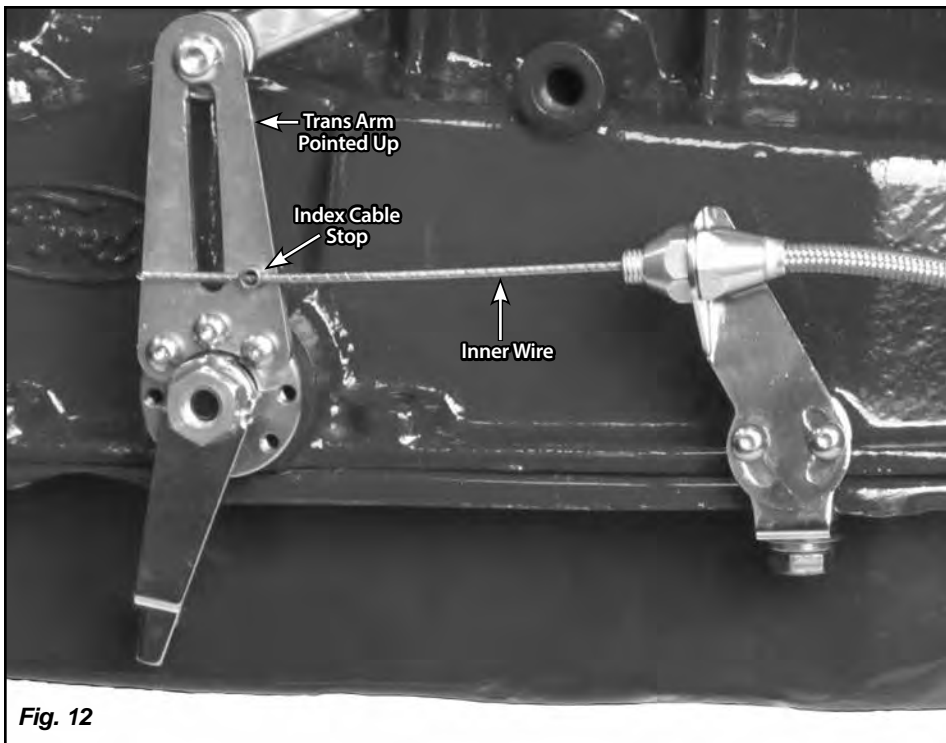
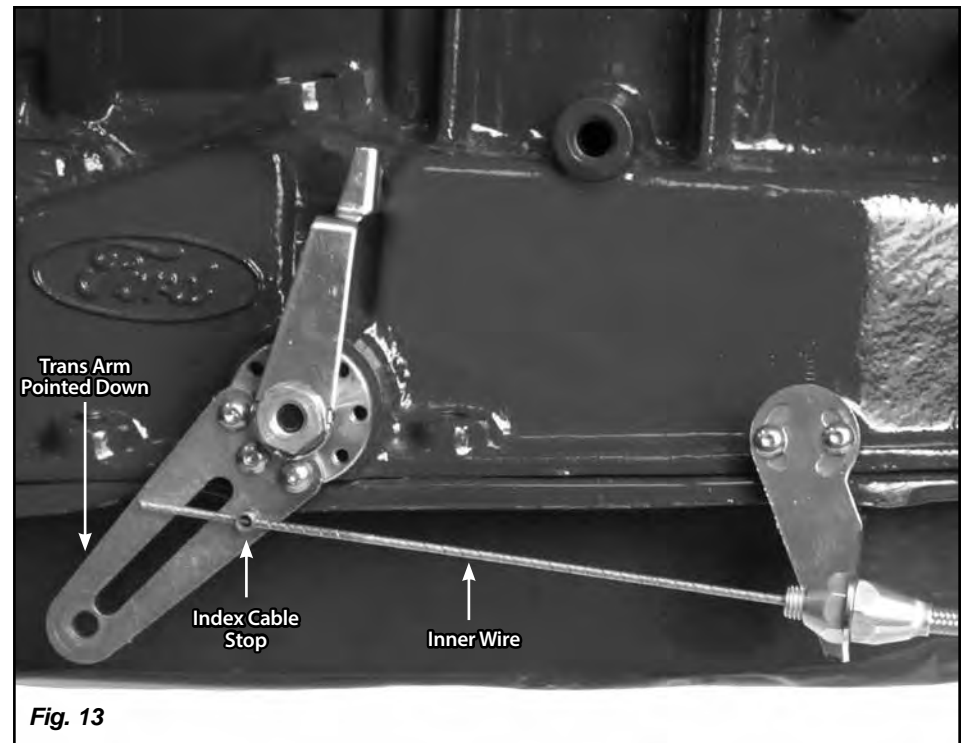

Fig. 12
Fig. 13
**Step 12:** At the opposite end of the cable, install the index cable stop into the trans arm or the AOD indicator arm. Slide the inner wire through the hole in the index cable stop so that approximately 1" is protruding. You should now have excess inner wire at the opposite end of the cable (at the sensor). Tighten the set screw in the index cable stop at the trans arm or AOD indicator arm using a 1/16" Allen wrench. Adjust the angle of the adjustable cable mounting bracket so that the inner wire will not bind or kink as it goes through the gear selections. **Fig. 12 and Fig. 13**